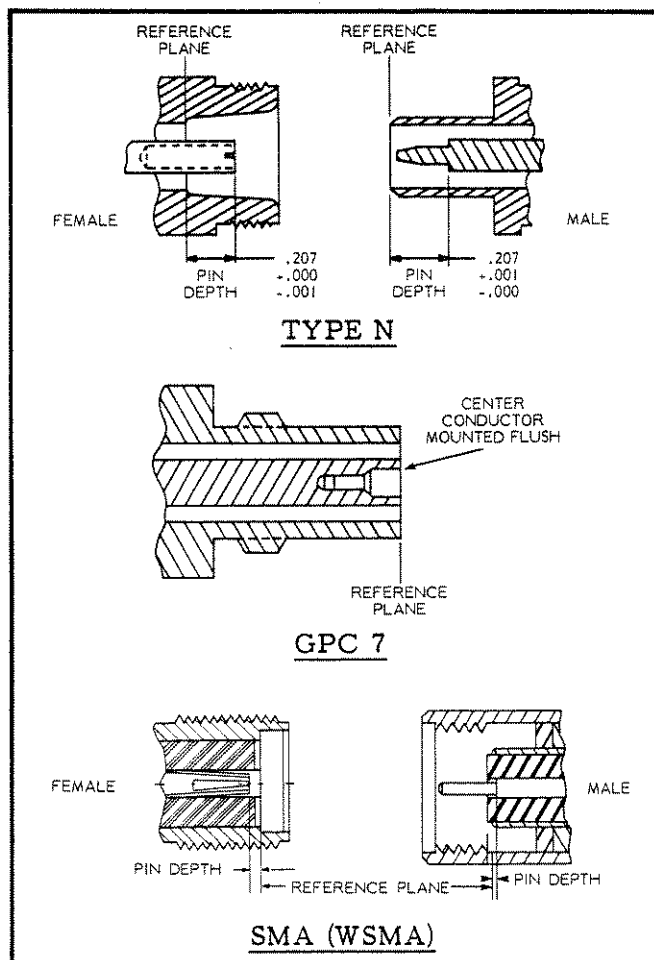

Figure 1-3. Connector Pin Depth
- a. Beware of Destructive Pin Depths on Mating Connectors.¹ Measure the pin depth (Figure 1-3) of the test device connector before mating it with the bridge or SWR Autotester test port connector. Based on bridges and SWR Autotesters returned for repair, destructive pin depths on mating connectors are the chief cause of failure in the field. When any bridge or SWR Autotester connector – especially the test port connector – is mated with a connector having a destructive pin depth, the bridge or SWR Autotester connector will probably be damaged. (A destructive pin depth has a center pin that is too "long" in respect to the connector's reference plane.)